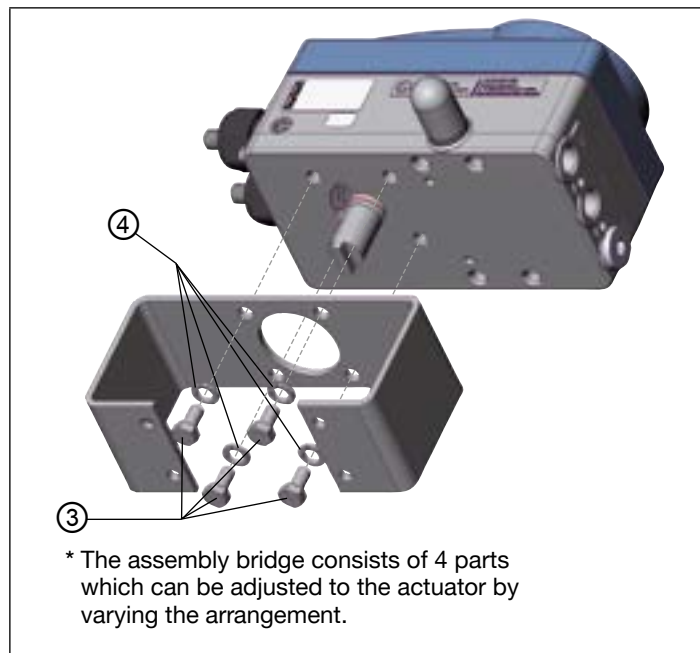

Fig. 12: Attach assembly bridge (schematic representation)
- Attach the assembly bridge to the Type 8792/8793 using 4 hexagon bolts ③ and circlips ④ (see "Fig. 12").